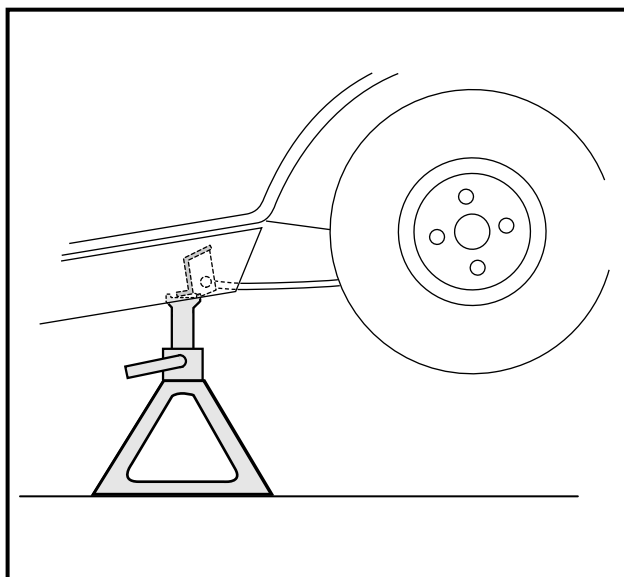

Figure 9-2 Support Vehicle on Jack Stands
1. Loosen, but do not remove, lug nuts on tire and wheel assembly on the side from which the spring is to be removed. Place chocks at the front wheels and lift the rear of the vehicle with a chain hoist or floor jack. Position jack stands under the frame crossmember between the spring mount and the side stringer, just forward of each rear wheel. Lower the vehicle to let the jack stands support the vehicle (**Figure 9-2, Page 9-3**). See following **WARNING**.